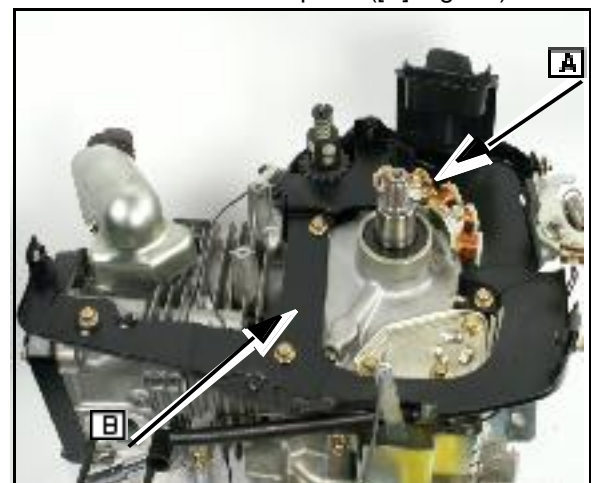

Fig. 10
- Remove the alternator (if equipped) assembly ([A] Fig. 10).
- Remove the back plate ([B] Fig. 10).